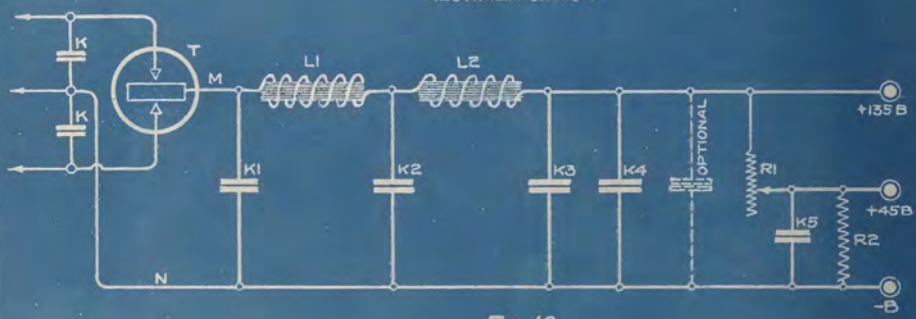

Fig. 10
A detail of the filter circuit is shown by Fig. 10, the outline of the Raytheon tube being shown at (T) on the left so the relation of the tube to the filter circuit can be more easily followed. The anode of the tube is the (+B) source of D.C. current so the plate of the tube is connected directly to the choke coils (L1) and (L2) and thence straight through to the +135B output post which goes to the audio amplifying circuit of the receiving set. Very large fixed condensers are connected between the chokes and the (-B) line as shown so that a condenser comes before and after each choke. When the current is being dammed back at the left of choke (L1), for example, a portion of this stored energy or reserve energy is dissipated by allowing it to escape to the opposite side of the line through the condenser (K1). In the same way, current that is held back at the left of choke (L2) escapes (partly) to the opposite side of the line.